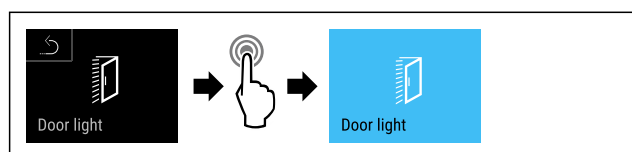

Fig. 76
- ▶ Complete the steps (see Fig. 76).